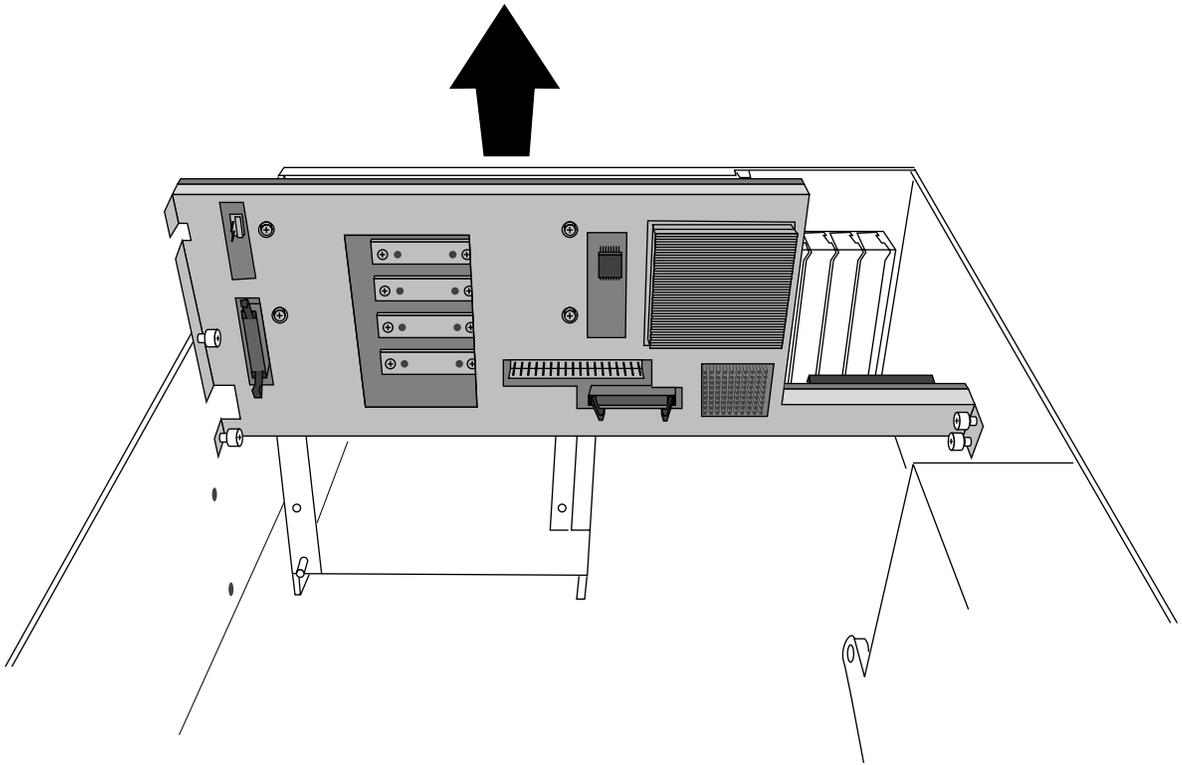

Figure 5-38 Lifting the Midplane out of the GIGACHannel Chassis
8. Lift the midplane up and out of the chassis, as shown in Figure 5-38.